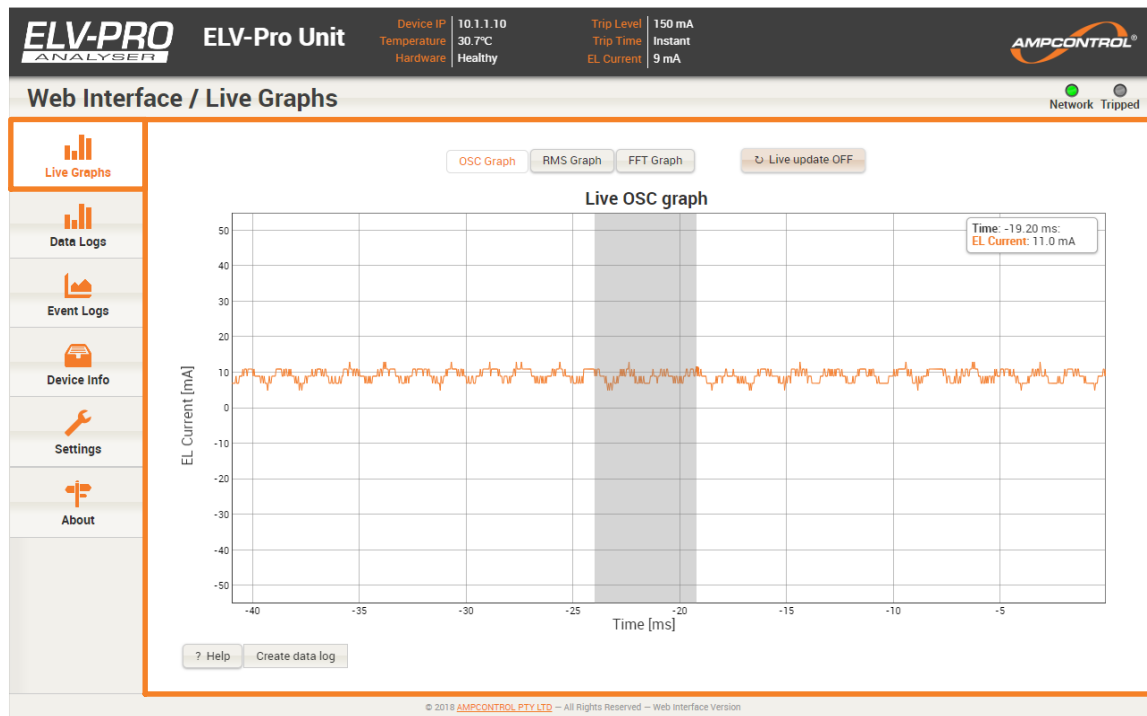

Figure 6.14: ELV-PRO Web Interface - Interactive Graph Navigation
- To zoom in, click on the graph and drag either horizontally (as shown in Figure 6.14) or vertically. Alternatively, for touchscreen devices pinch out to zoom in.